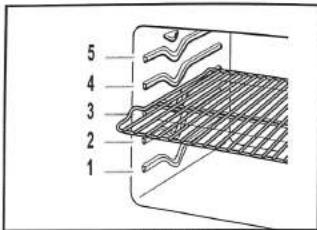

FIGURE 5
14. For single & combo ovens, check the current roll-out rack in two positions, #5 very top position and #3 the middle position (See Figure 5). For double ovens check both oven cavities in positions #5 very top position and #3 the middle position. (See sections **To Remove Roll-Out Rack** and **To Install Roll-Out Rack** for installation and removal of roll-out rack).